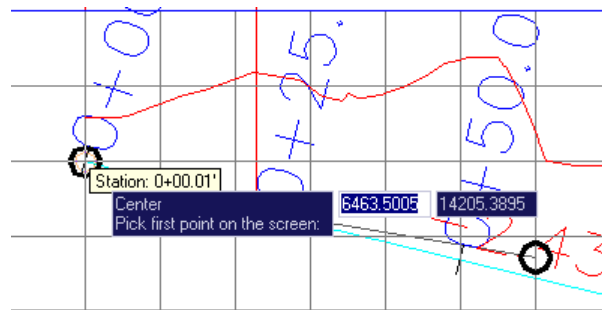

Figure 6-70 Selecting the center of the circle
15. Click at the center of the first circle in the profile view, as shown in Figure 6-70.